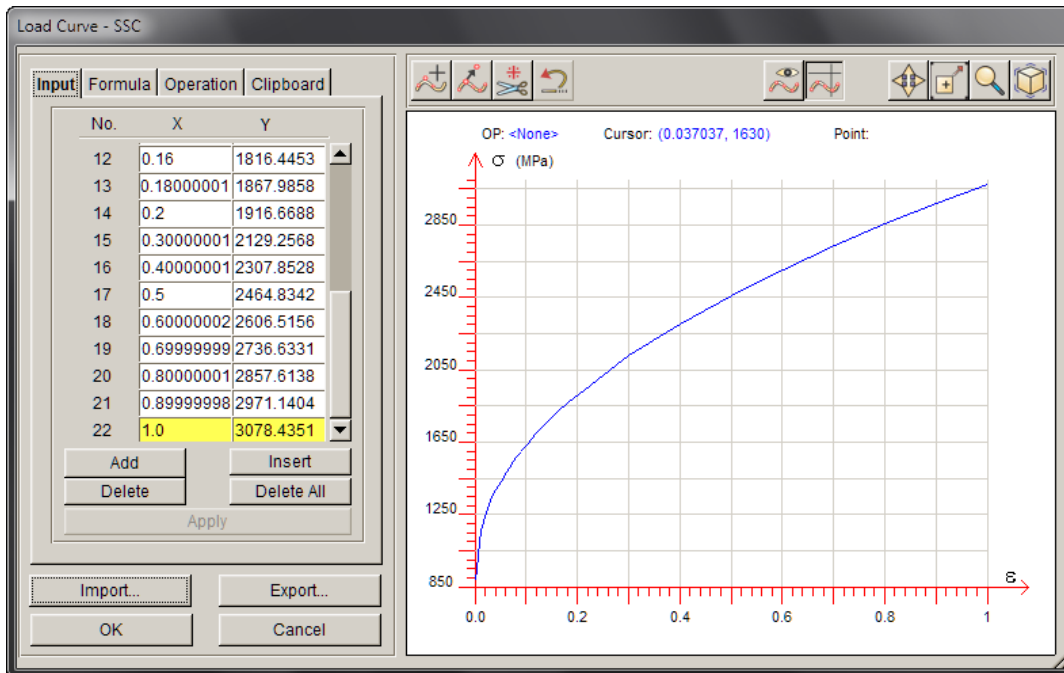

Figure 23
7. The stress/strain curve at 0 degree is imported. The result is shown in Figure 23.